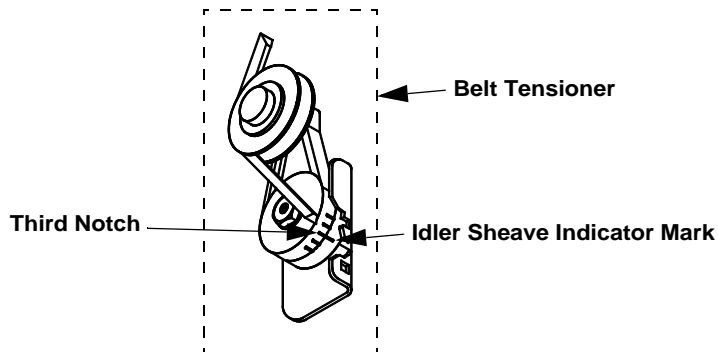

Figure 35. Idler Sheave Indicator Mark
- Check Belt Tension. The Belt should be tensioned just tight enough to minimize Belt slippage. Over tensioning the belt will cause premature Belt and Bearing wear. With a new Belt the Idler Sheave indicator mark should line up with the third notch in the Tensioner Housing (See Figure 35).